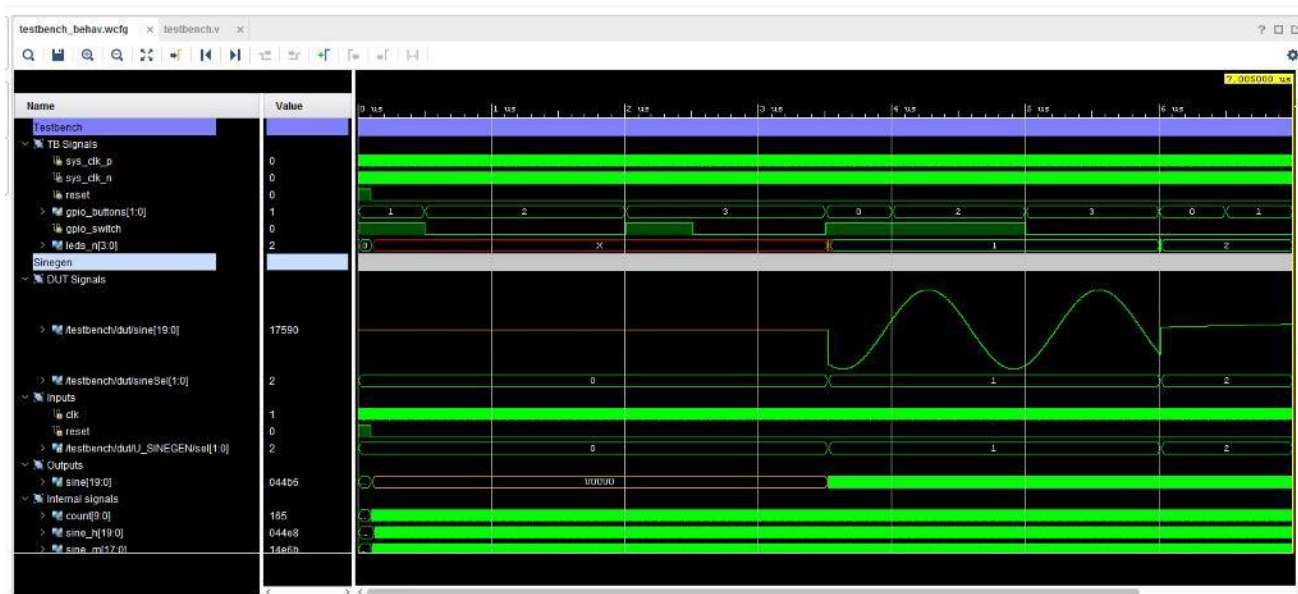

Figure 24: Simulation Waveform at Time 7005 ns
3. After the simulation is complete, click the **Zoom Fit**  button to see the whole simulation timeline in the Waveform window. Figure 24 shows the current simulation results.